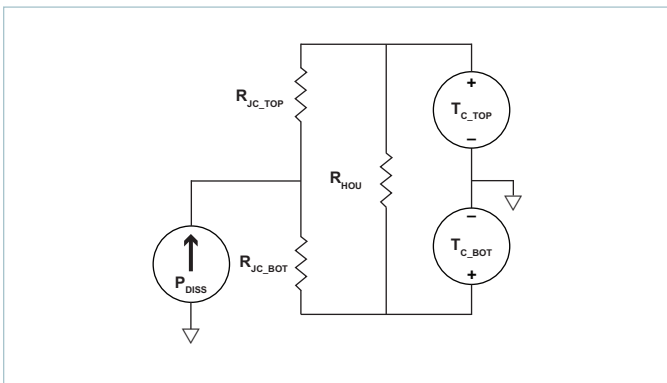
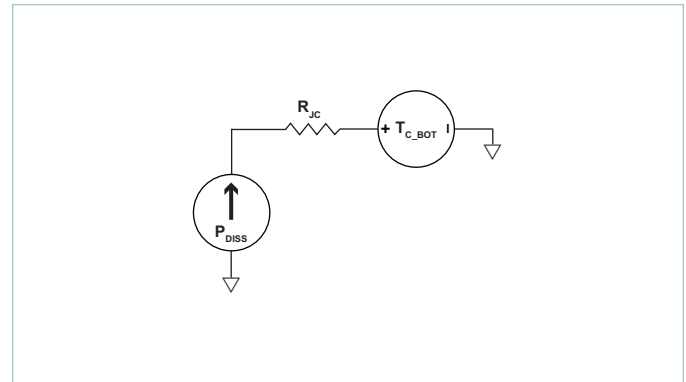

Figure 18 – Double sided cooling VIA thermal model
Figure 19 – Single-sided cooling VIA thermal model
The VIA package provides effective conduction cooling from either of the two module surfaces. Heat may be removed from the top surface, the bottom surface or both. The extent to which these two surfaces are cooled is a key component for determining the maximum power that can be processed by a DCM in a VIA package, as can be seen from specified thermal operating area on Page 4. Since the VIA package has a maximum internal temperature rating, it is necessary to estimate this internal temperature based on a system-level thermal solution. To this purpose, it is helpful to simplify the thermal solution into a roughly equivalent circuit where power dissipation is modeled as a current source, isothermal surface temperatures are represented as voltage sources and the thermal resistances are represented as resistors. Figure 18 shows the “thermal circuit” for the VIA package.
- Single side cooling: the model of Figure 18 can be simplified by calculating the parallel resistor network and using one simple thermal resistance number and the internal power dissipation curves; an example for bottom side cooling only is shown in Figure 19.